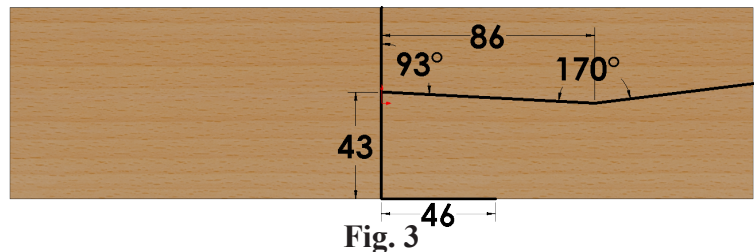

Fig. 3
- Step 3. Click **Smart Dimension**  (S) on the Sketch toolbar.
- Step 4. Add the Dimensions as shown in Fig. 3. To Smart dimension an angle, click both lines, then move the cursor between lines and click. Key-in the dimension and press ENTER. Add the other dimensions.